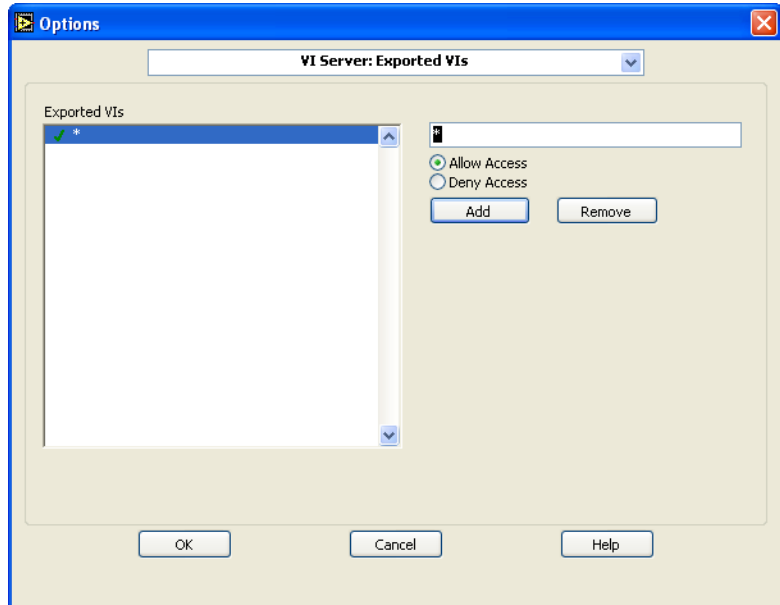

Figure A-4. VI Server: Exported VIs Property Page of the Options Dialog Box
3. Configure the VIs that you want to allow to be called through the LabVIEW VI Server in the **VI Server: Exported VIs** property page of the Options dialog box, which is shown in Figure A-4.